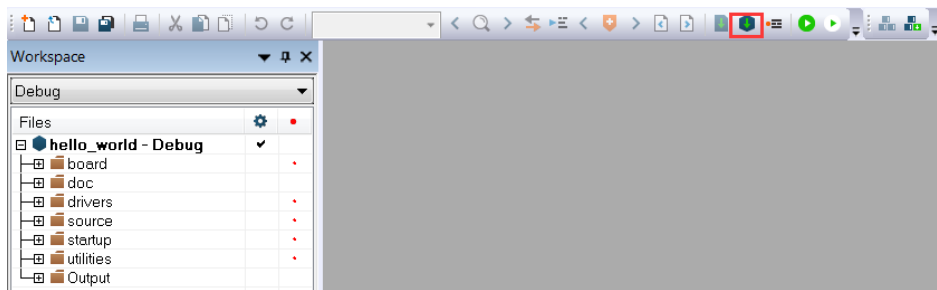

Figure 40. Build the demo application
3. To build the demo application, click **Make**, highlighted in red in Figure 40.